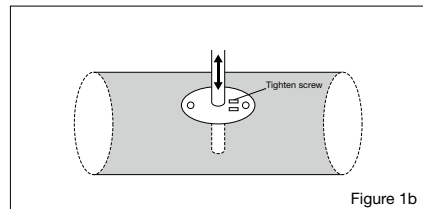

Figure 1b
- 4) Adjust the probe to desired depth. Ensuring the end of the probe reaches the middle of the duct, Figure 1b.